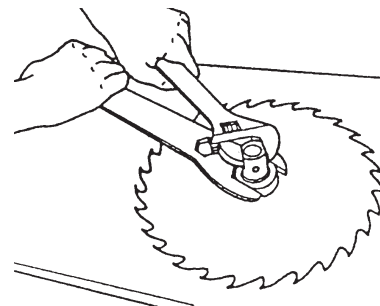
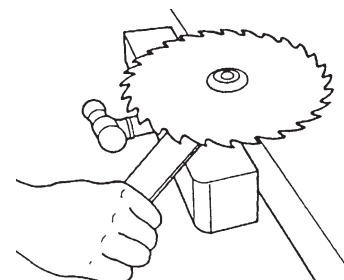

Figure 26
Figure 27
- d. Hold the Arbor with an Adjustable Wrench and tighten the Arbor Nut with the Arbor Wrench, as demonstrated in Figure 26. Another way to tighten the Arbor Nut is to clamp the Arbor in a Bench Vise, as illustrated in Figure 27, and tighten the Nut with the Arbor Wrench.